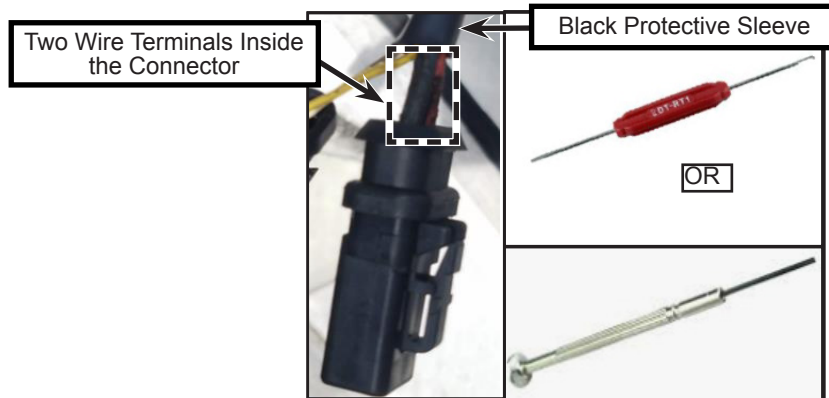

Figure 5 - Fan Side Connector Removal and Tool Options for Terminals Extraction from the Connector Housing
- 1.12. On the fan side, extract the two wire terminals inside the DTP power connector using a Deutsch extraction tool or a small flat blade screwdriver. Then cut the terminals keeping the maximum wire length (see figure 5). Clean the wires with contact cleaner, if glue or dirt is present.